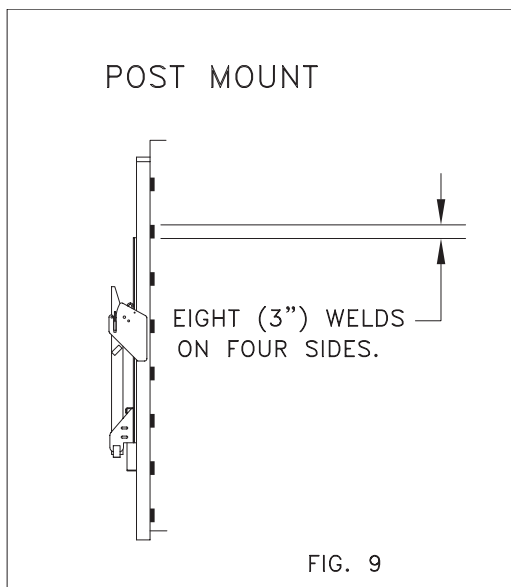

FIG. 9
- Step 9** Weld rail adapters to vehicle body or where gate is attached directly to vehicle use eight welds three inches long on each side of the rail. See figure 9.